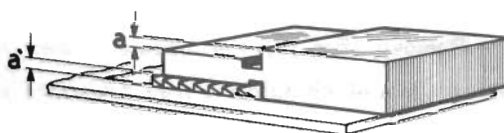

Fig. 15
- lift the presser foot, place the gauge No.10.1 (Fig.15) on the needle plate and, by turning the balance wheel by hand, check that the maximum protusion of the feed dog results between the two heights «a-a» marked on the gauge.